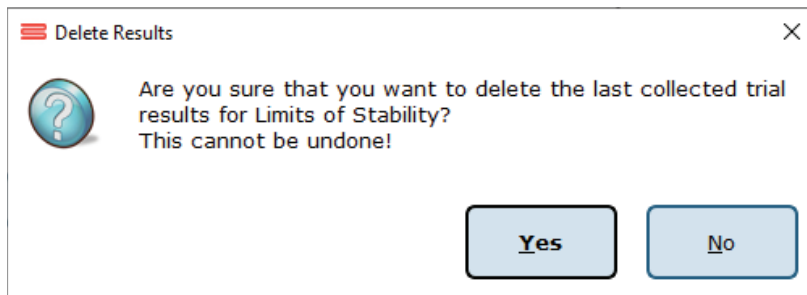

Figure 21: Delete Trial Verification
2. In the popup window that appears, shown in Figure 21, choose either Yes, I want to delete the last collected trial, or No, I do not want to delete the last collected trial.